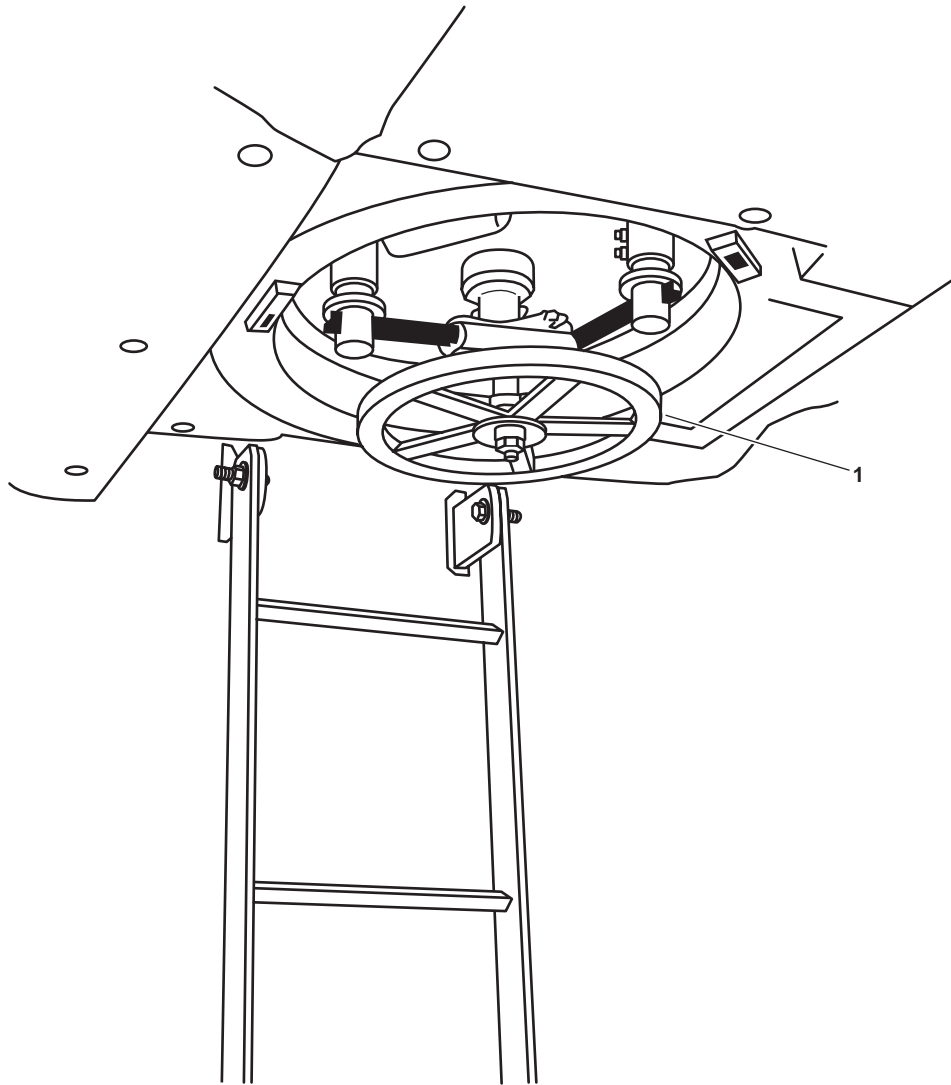

Figure 8. EOS Emergency Escape Scuttle
- h. EOS emergency escape scuttle (figure 8, item 1)